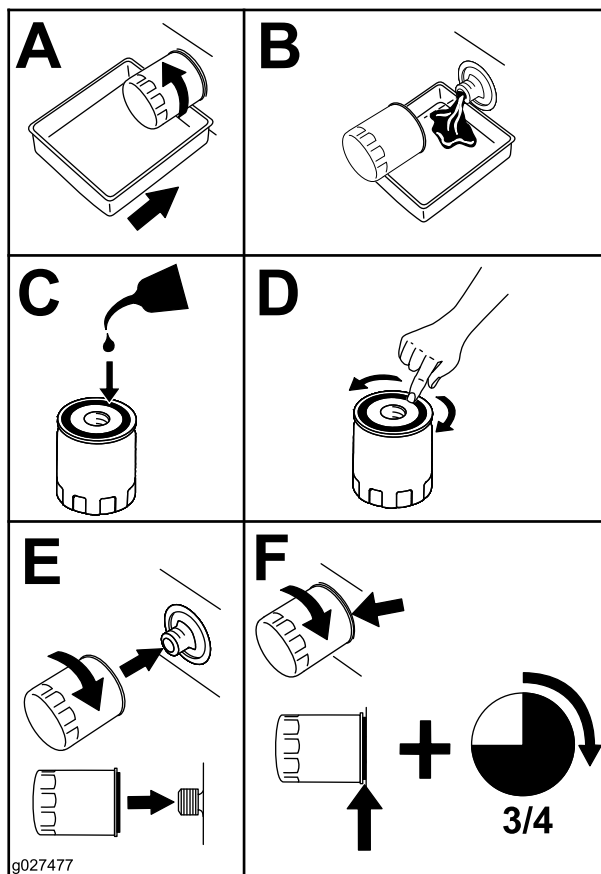

Figure 38
5. Change the engine oil filter (Figure 38).